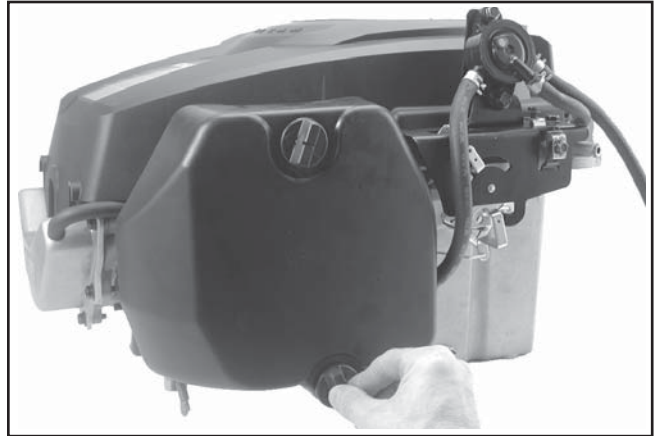

Figure 10-82. Installing Air Cleaner Cover.
3. Install the air cleaner cover and secure with the two retaining knobs. See Figure 10-82.